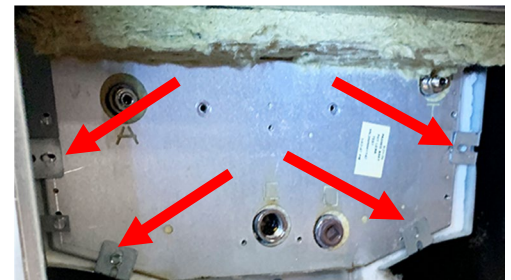

Figure 42
45. Using a screwdriver bend out the four (4) tabs from the upper insulation retainer cover (see Figure 42 & 43).